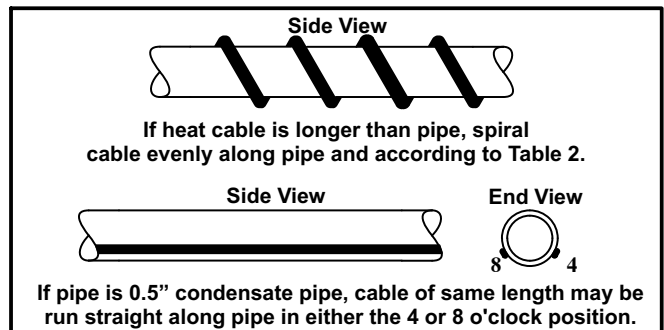

FIGURE 1
- Wrap heat cable around pipe, condensate trap assembly or vent termination, so that the cable is pulled tight to ensure continuous contact between the cable and the pipe. See figure 1.